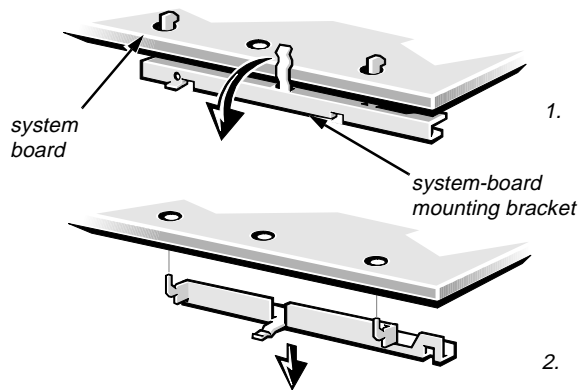

Figure 7. Bracket Removal
9. If the system board is secured with hooked standoffs or three screws, remove the mounting bracket from the back of the system board (see Figure 7).